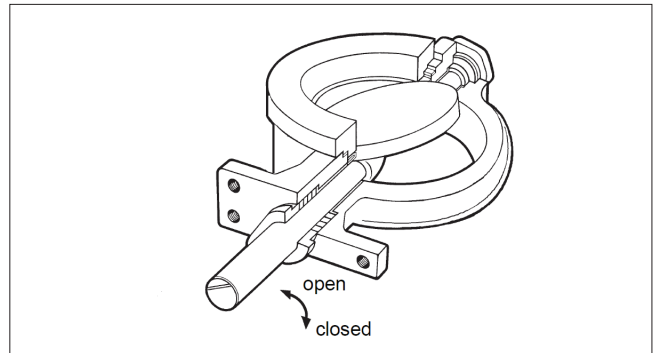

Fig. 15 Open and closed positions of the valve
The marking line parallel to the disc on the valve shaft head shows roughly the closed position of the disc (see Fig. 15). Pressure shocks can cause loosening of the pin connection between disc and shaft; consequently the shaft moves while the disc remains in place and this prevents full closing of the disc. If the reason for the leakage does not become apparent after doing the above, the valve must be disassembled for replacing the parts.
- Check the position between the seat ring and the disc. The valve closes clockwise (see Fig. 15).
- Press the shafts into the disc drillings. Align the pin holes. The shaft (5) position against the disc must be according to Figure 15.
- Install the gasket (31) and the blind flange (8). Screws of the blind flange must be tightened evenly. An unevenly tightened flange will damage the seat.
- Install the body gasket (32) and the clamp ring (2). See details in Section 5.5.
- Check the contact line between the seat ring and the disc (see Fig. 15).